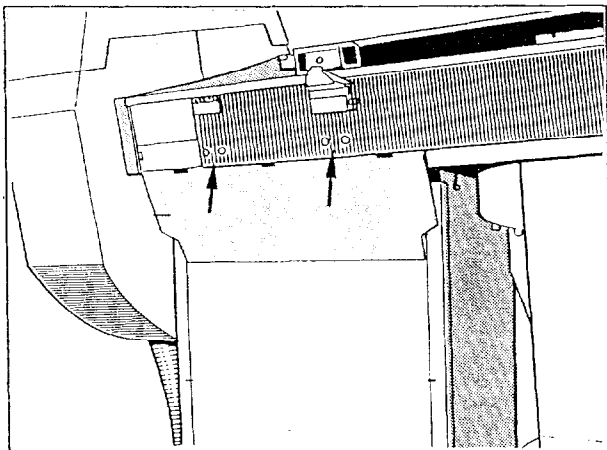

Fig. 7
- Unscrew the left toothed rack (4 Allen screws ↗/ Fig.7).